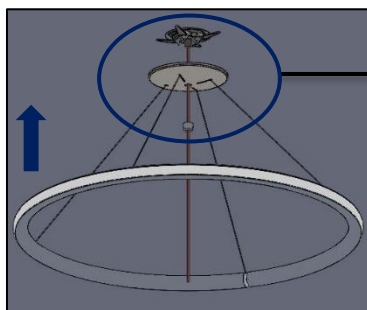

FIG. 18 - INSTALLATION VIEW
3. Raise the ARO LUMINAIRE up, with multiple people, to the ceiling and feed the AIRCRAFT CABLE through the GRIPLOCK and CORD through NIPPLE which is available in MOUNTING BRACKET ASSEMBLY. Adjust the AIRCRAFT CABLE to the desired length as shown in FIG. 18 & 19 below.